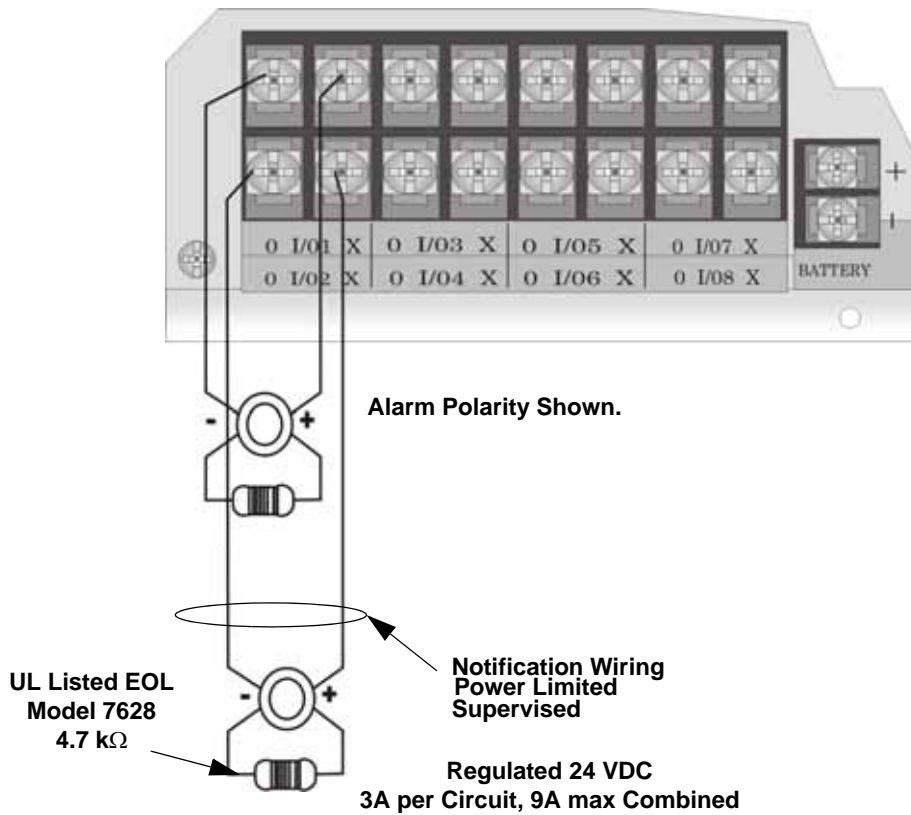

Figure 4-31 Class B Notification Appliance Circuit Wiring
1. Wire Class B Notification appliances as shown in Figure 4-31.